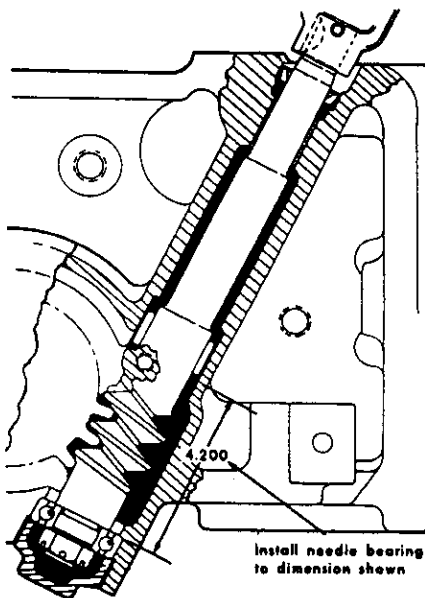

Fig. 11—When renewing needle bearing in Series 424 or 444 mechanical steering gear housing, install the bearing to dimension shown.
To remove ball bearing (7), remove cotter pin and nut and bump worm shaft out of bearing. When reinstalling the bearing on worm shaft, tighten nut to a torque of 75-120 ft.-lbs. Do not back off nut to below 75 ft.-lbs. to install cotter pin. Worm shaft bushing (11) and oil seal (12) can be renewed at this time. If needle bearing (10) is being renewed, it must be installed to the dimension shown in Fig. 11.